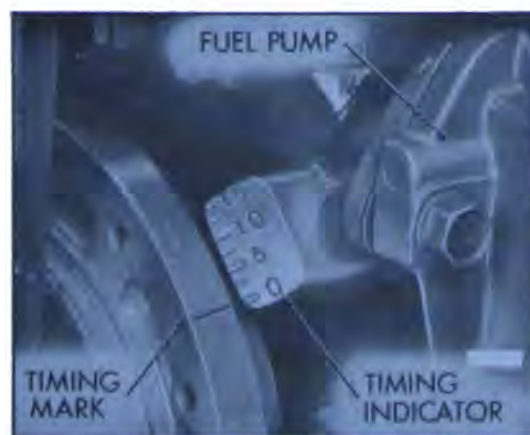

Figure 68-38—Ignition Timing Mark and Indicator - V-8 Engines
The timing mark is a groove filled with yellow paint, which is in the rear edge of the harmonic balancer. The timing indicator, a part of the timing chain cover, has ridges outlined with yellow paint. These ridges indicate T.D.C. (marked "O"), "5" degrees "10" degrees and "15" degrees before U.D.C. See Figure 68-38.
2. Install distributor in engine with rotor in position to fire No. 1 cylinder and with vacuum control in position to connect vacuum hose. See Figure 68-38. Install distributor clamp and bolt with lock washer, leaving bolt just loose enough to prevent movement of distributor with hand pressure.